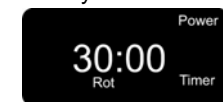

Fig. 2
8. Press the increase/decrease buttons to adjust the desired time. (Fig. 2)